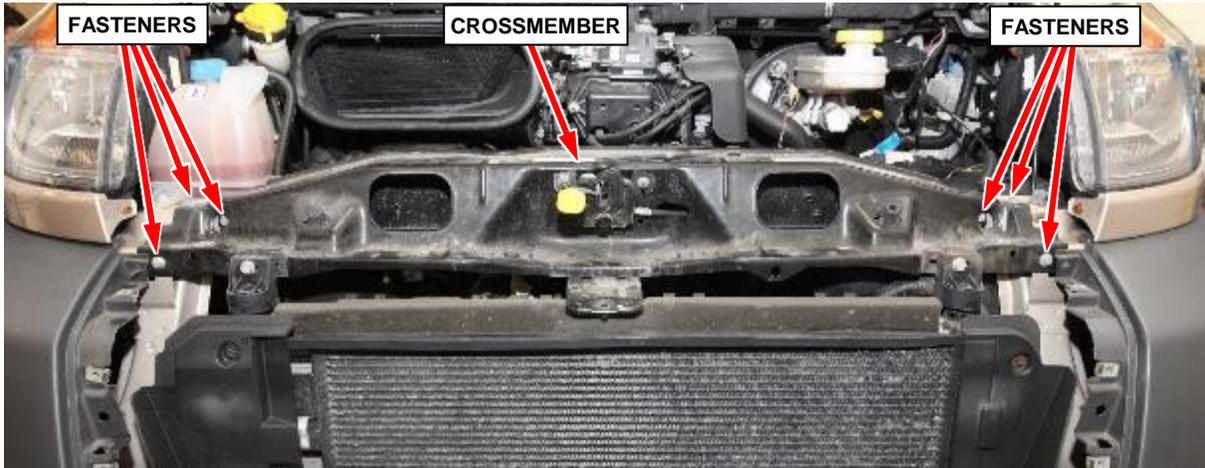

Figure 15 – Upper Radiator Crossmember
9. Remove the six fasteners securing the upper radiator crossmember (Figure 15).
10. Reposition the upper radiator crossmember and secure it to the hood hinges (Figure 15).
32. Position the upper radiator crossmember back in its proper location (Figure 15).
33. Install the six fasteners securing the upper radiator crossmember. Tighten the fasteners to 45 N·m (33 ft. lbs.) (Figure 15).